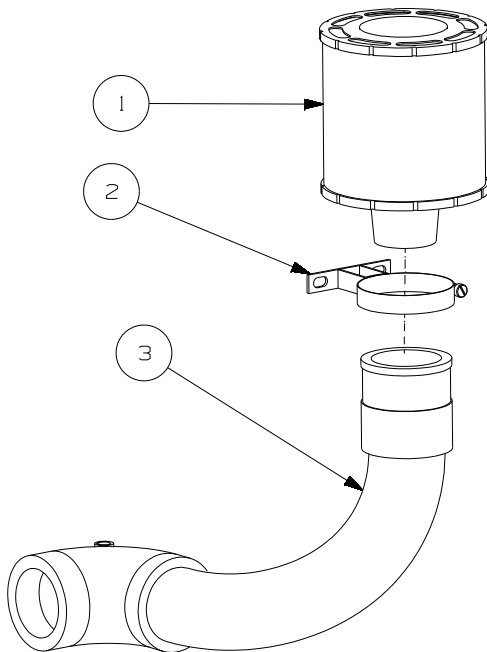
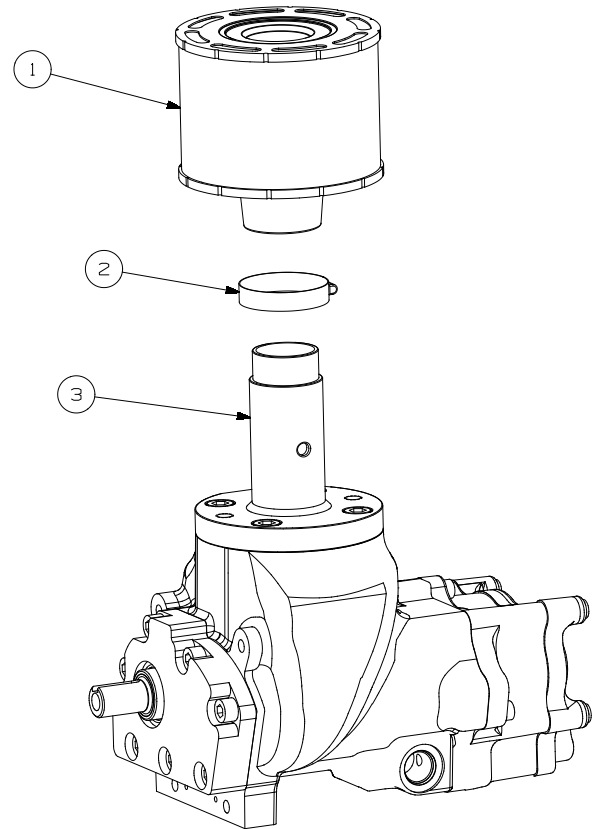

Figure 6-4: Air Filter Assembly 5-10HP
Figure 6-5: Air Filter Assembly 15-20HP
4. Replace air filter. Refer to *Figure 6-4* and *Figure 6-5* and *Section 6.6*.
Refer to *Figure 6-4* and *Figure 6-5*. Air filter maintenance should be performed every 2000 hours or sooner if necessary.